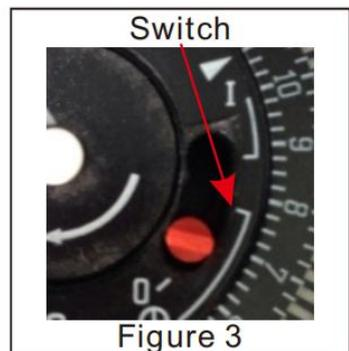

Figure 3
3. Push down the switch and situate it to the position of ' ' (see figure 3).